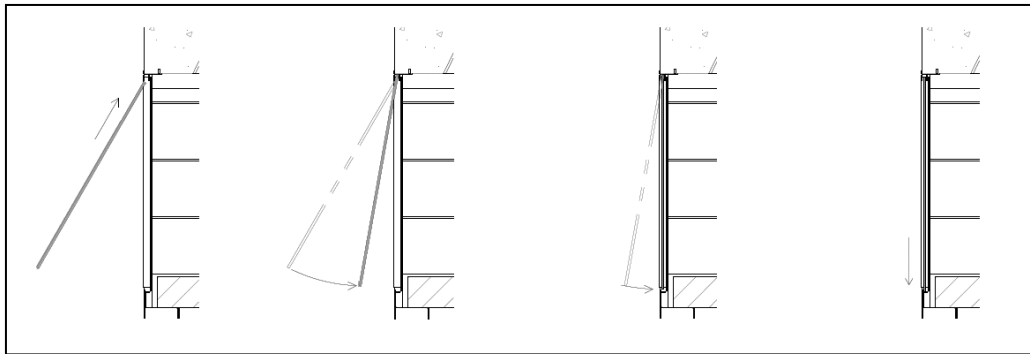

FIGURE 59
- 3) With the panel in an upright orientation, angle the top of the glass towards fireplace and insert the top edge of the glass panel into the channel of the Top Glass Bracket. In the same motion, raise the glass panel's top edge to fully seat in the Top Glass Bracket while swinging the bottom edge of the glass panel in towards the fireplace. The bottom edge of the glass should align to the rear ledge of the Air Collector Box's glass bracket, and the glass should be in a vertical orientation. Gently allow the glass panel to seat into the bottom Air Collector Box glass bracket (**Figure 59**).